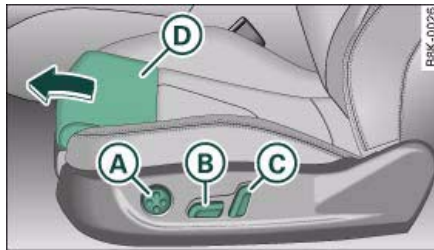

Fig. 74 Front seat:
- Press switch (B) ⇒ fig. 74 forwards or backwards.